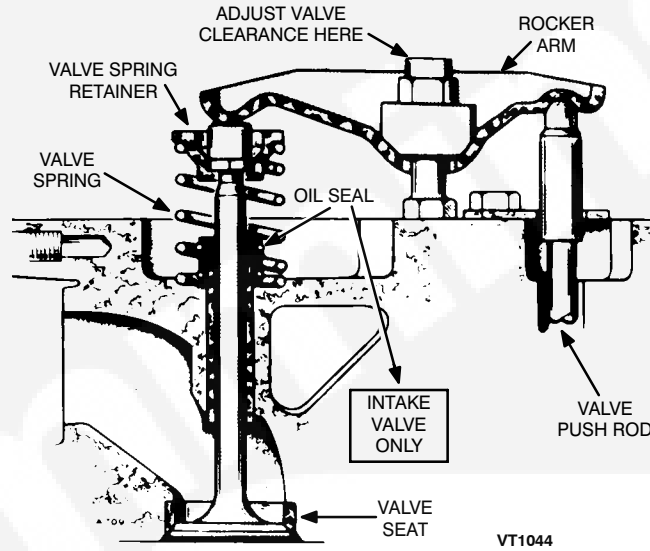

FIGURE 6-4. VALVE CLEARANCE ADJUSTMENTS
3. Check cylinder head-bolt torque prior to valve clearance adjustment. Torque values are listed in Section 2, Specifications. Adjust valve clearance with the locknut which secures the rocker arm to the cylinder head (see Figure 6-4). Loosen this locknut to increase clearance: tighten it to reduce clearance.